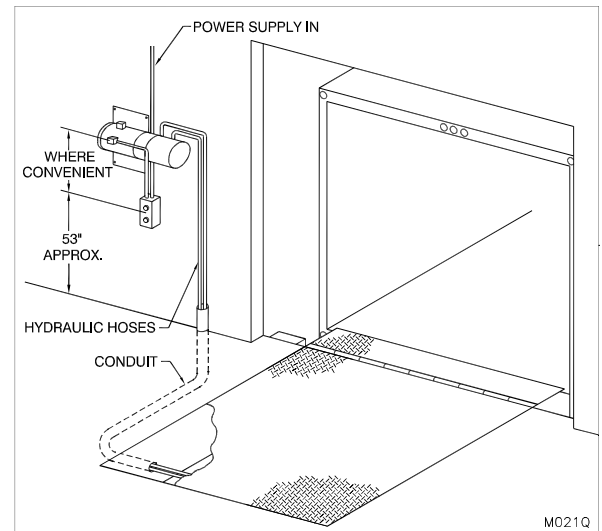

Figure 49: Power Unit and Push Button Location
3. ☐ Mount push button in appropriate location. (See “Figure 49: Power Unit and Push Button Location” on page 38)
1. ☐ Mount both push button and power unit on wall. (See “Figure 49: Power Unit and Push Button Location” on page 38) Mount the power unit horizontally with reservoir breather facing up.